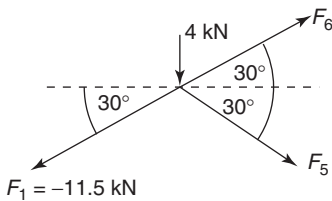

Figure 4.37
**Consider joint (3);** see Figure 4.37.